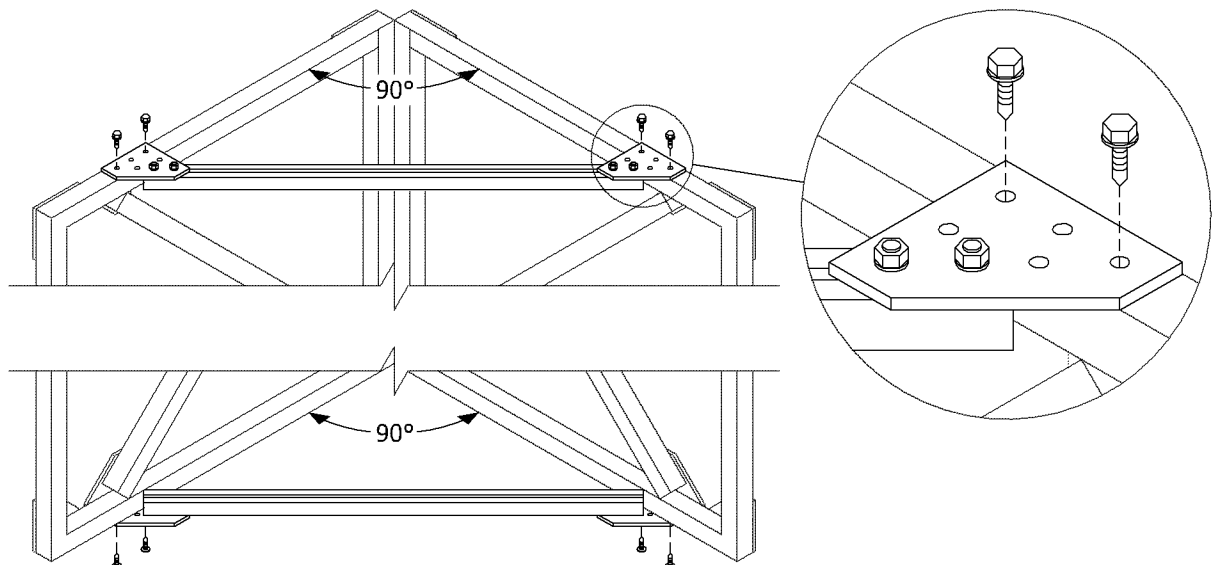

FIGURE 6-A
6. Use a carpenter's square to align the standoff supports at right angles to each other. Align the assembly "C" at a 45 degree angle over the framing members "B" and fasten each ESD Bracket with 2 each 5/16" x 1" tek screws (see Figure 6-A). Framing member "C" should be at a 45 degree angle and touching both adjacent framing members after assembly. Tighten all bolts with a ratchet or box end wrench. If access to the bottom of the framing is obstructed, cut 5" off the framing member "C" and mount it onto the top surface of the bottom framing member "B".